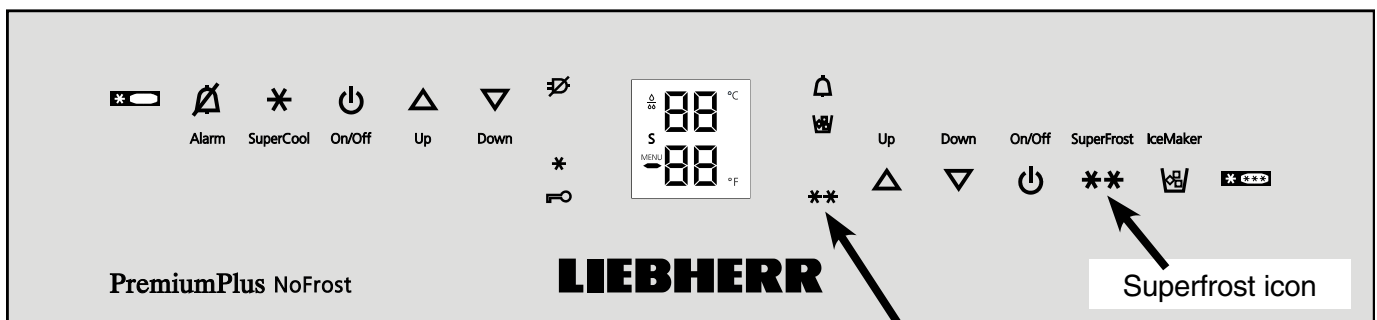

Figure 19
Freezing with Superfrost - Figure 19
- Pull out the upper freezer drawer completely. Remove the ice cube bin by moving upwards. The position of the ice cube bin is shown in **Figure 19**.